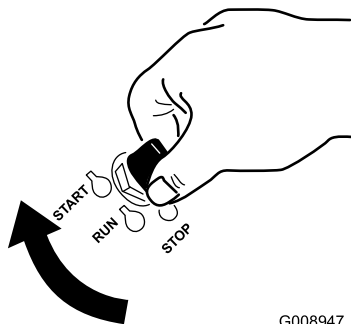

Figure 16
1. Turn the ignition key to the START position (Figure 16).
5. Turn the ignition key to the START position (Figure 16). When the engine starts, release the key.